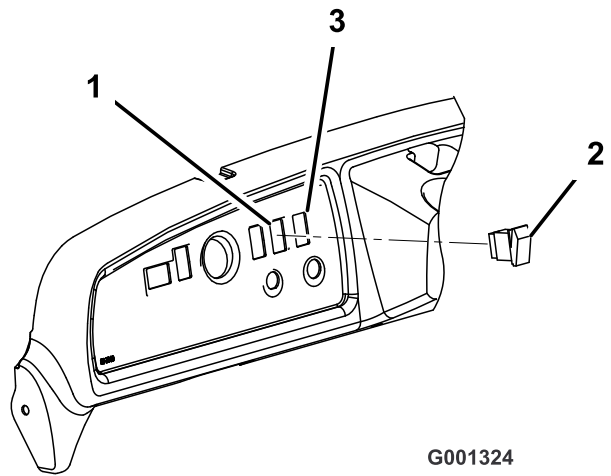

Figure 6
2. Remove the plug from the dash panel, to the right of the steering column and above the key switch (Figure 6).
- Press the up-paddle of the bed-lift switch to extend the actuator (Figure 6).
- Align the up-paddle to the 12 o'clock position and insert the bed-lift switch into the opening in the dash (Figure 6).